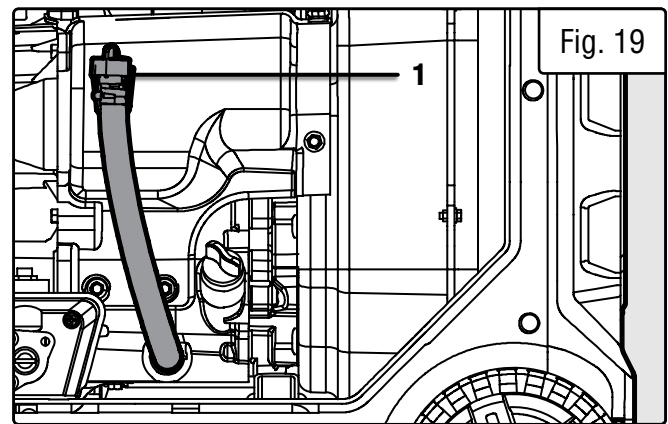

Fig. 19
2. Open the right side panel and locate the oil drainage hose (Fig. 19 - 1). Unhook the hose and open the oil drainage valve by turning the yellow cap a quarter turn counterclockwise.